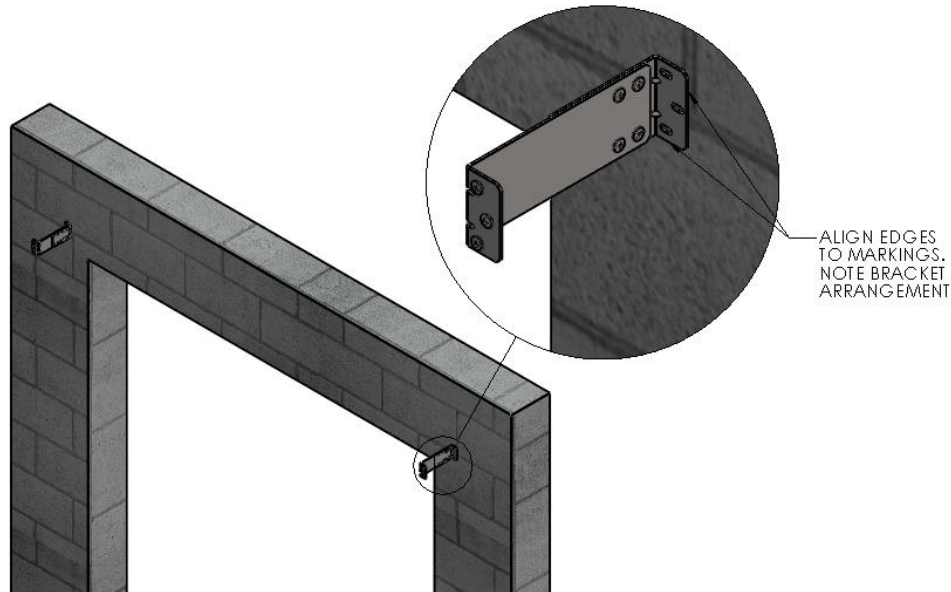

Figure 6 LOCATE/INSTALL HEADER OFFSET MOUNTING BRACKET
1. Using the wall end of one of the Header Projection Mount Brackets, trace the insides of its oval mounting slots onto the wall mount surface (a Sharpe permanent marker works great for this). Be sure that its flange is facing outward, that its bottom edge is on the height line, and that the outer edge is on your vertical overall width line. (Figure 6 LOCATE/INSTALL HEADER OFFSET MOUNTING BRACKET)
2. Predrill through the centers of the traced locations for the mounting hardware, three (3) pilot holes on each side. Using adequate mounting screws or bolts (depending on your building/surface material) attach the header offset brackets to each side of the opening. (Figure 6 LOCATE/INSTALL HEADER OFFSET MOUNTING BRACKET)